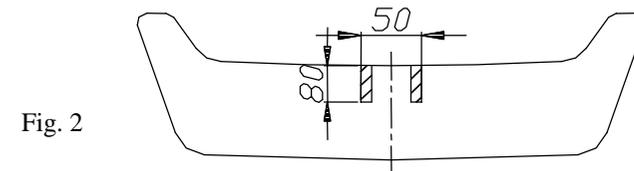

Fig. 2
4. Find under anti-noise mat in boot longitudinal holes on the left and right side (endmost of a car). To this holes put handles with nuts (pos. 6 and 7).
5. Left bracket (pos. 4) fix to the left chassis member and right bracket (pos. 5) fix to right chassis member through holes pos. A with handles (pos. 6 and 7). Next fix to body through holes pos. B
7. To in this way prepared brackets (pos. 4 and 5) fix main bar of the towbar (pos. 1) using bolts M12x35mm (pos. 9).
8. Reassemble the bumper after cut out fragments according to figure 2.